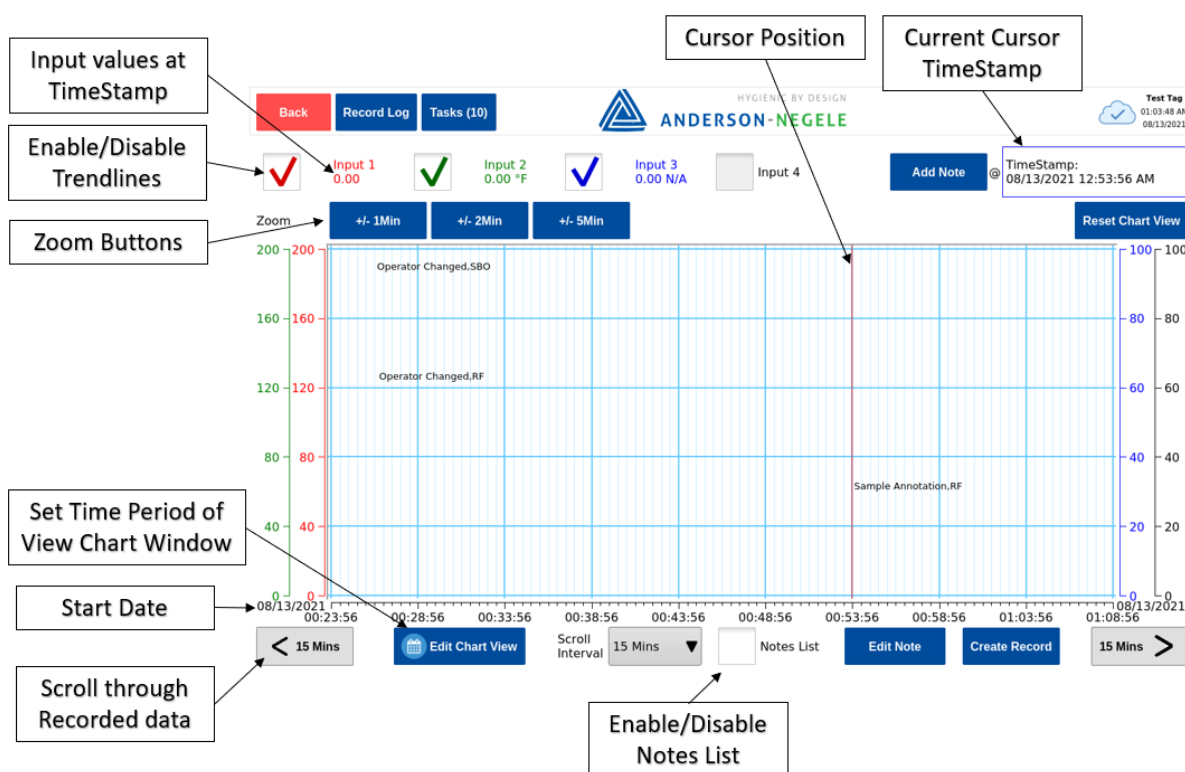

Figure 40: View Chart Screen
- Enable / Disable Trendlines – Shown as the configured input names in Figure 40, selecting this check box will enable (show) the trendline and deselecting will disable (hide) the trendline in the View chart screen.
- Start and End Date – Start Date of chart period is Shown in Figure 40, end date is located in the bottom right of the view chart screen.
- Time Scroll Button – Shown in Figure 40 as “Scroll through Recorded Data”, these buttons increment the chart when pressed by the Scroll Interval that is displayed on the face of the button.
- Notes List – Selecting this check box will enable (show) the Annotation List as seen in Figure 40 and deselecting will disable (hide) the Annotation List in the View chart screen allowing for the Chart to display on a larger portion of the HMI.